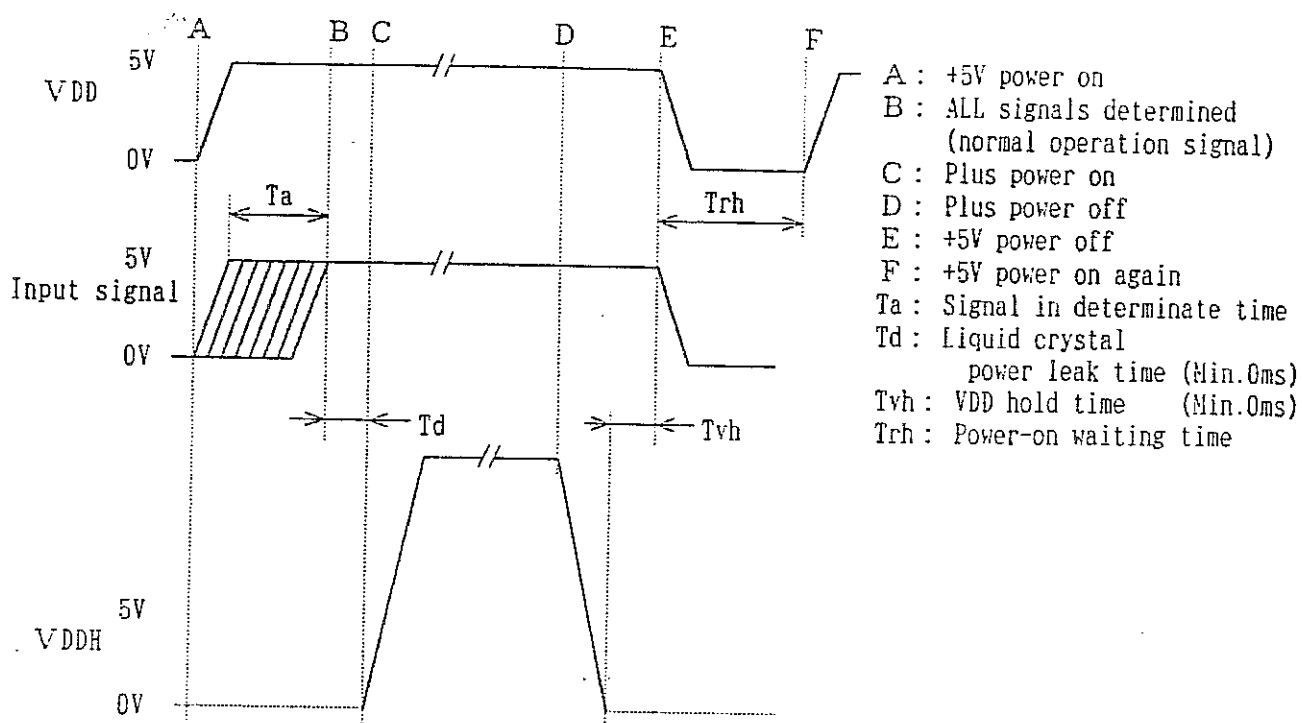

Fig.1 Power on/off sequence
- Strictly follow the sequence shown in Fig.1 to turn the power on/off, and prevent latch-up and the use of DC drive for the liquid crystal display module.
- Fig.1 shows the voltage levels at the module terminal when the module is connected to the power and signal line.